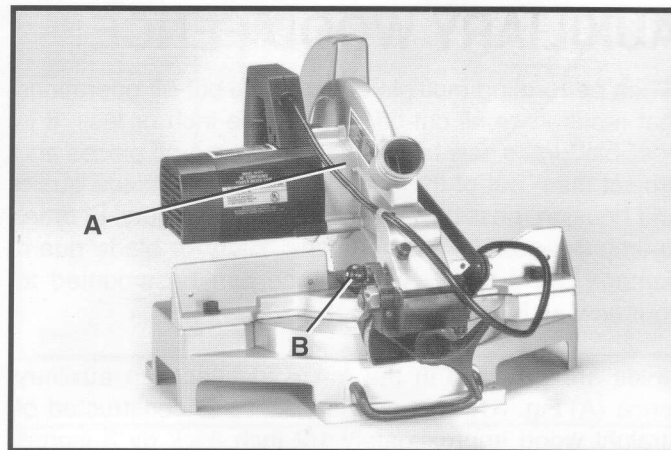

Fig. 29
When transporting the saw, the cuttinghead should always be locked in the down position. This can be accomplished by lowering the cutting arm (A) Fig. 29, and pushing in plunger (B) until other end of plunger (B) engages with hole in cutting arm. **IMPORTANT: NEVER CARRY THE COMPOUND MITER SAW BY THE SWITCH HANDLE. THIS MAY CAUSE MISALIGNMENT. ALWAYS LIFT THE MACHINE BY THE BASE.**